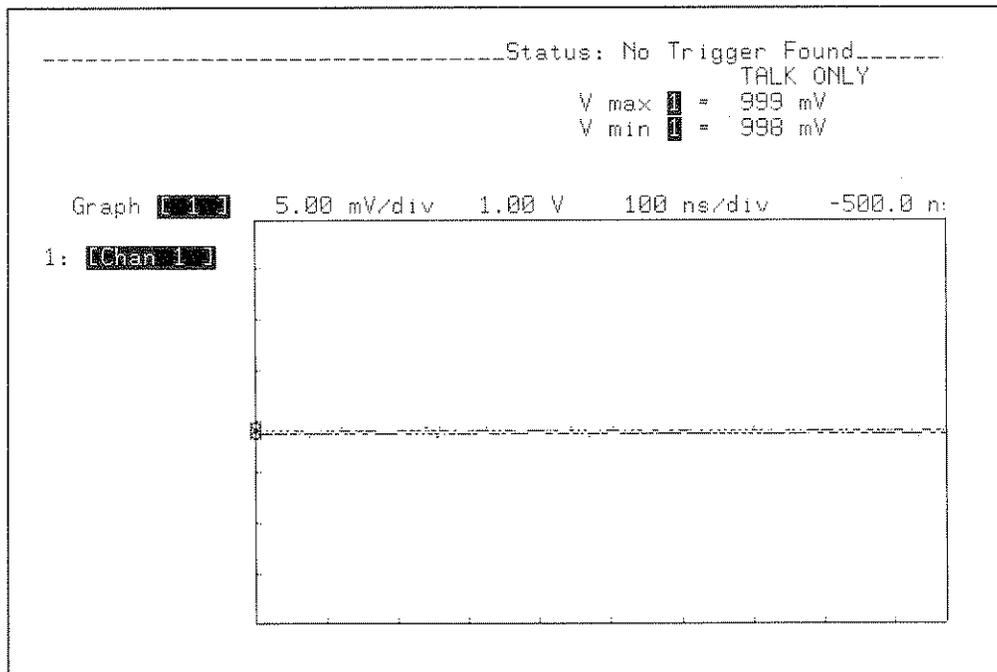

Figure 9-2. DISPLAY Waveform
5. The display should appear similar to figure 9-2.